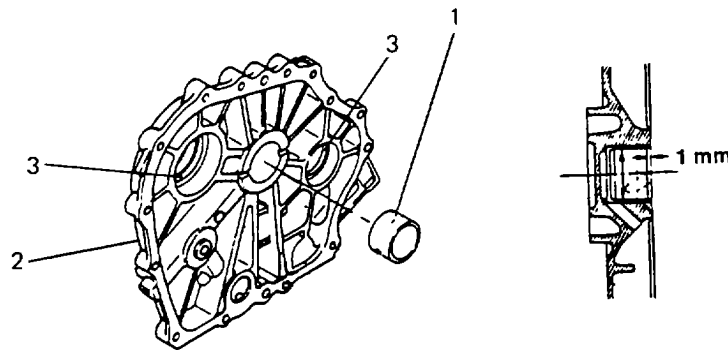

Figure 6-6. Main Bearing Insert
- a. Refer to Figure 6-6. Replace the main bearing metal Insert If it is discolored or damaged.
- (1) Remove bad main bearing metal insert (1).
- (2) Insert main bearing (1) into crankcase cover (2). Carefully fit the main bearing so that the oil groove is in the upper half and the oil hole in the bearing is aligned with the oil groove.
- (3) Pressfit the main bearing until recess is 0.0039 inch (1 mm) past the cover edge.